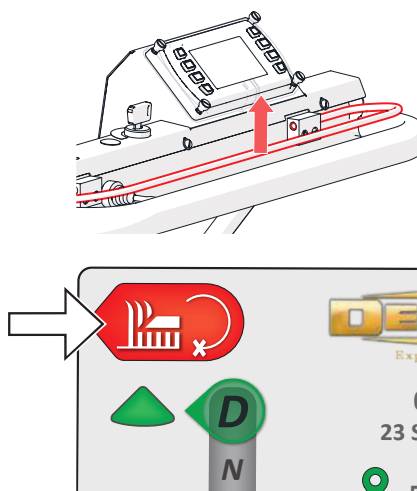

Fig. 15E - Stop the cylinder motor
8. To stop the cylinder motor, release the OPC or press 'Cylinder start / stop'. Releasing the OPC will also stop the drive motor (Fig. 15E).